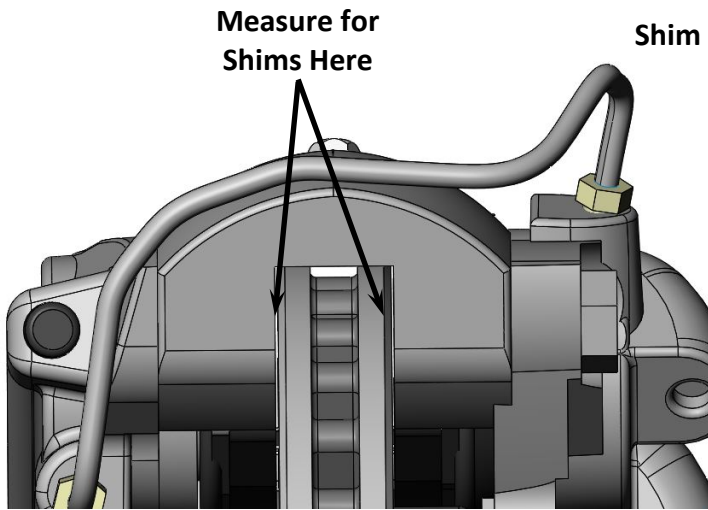
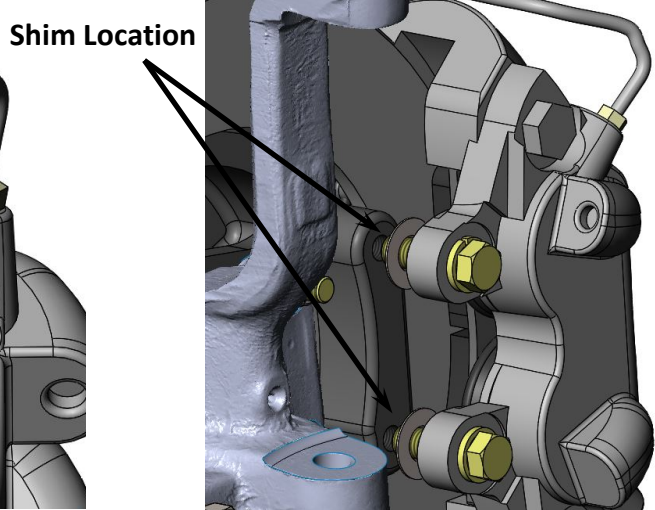

Figure 6a – Measure Location
Figure 6b – Shim Location
**NOTE:** Shimming of the caliper is required due to variations in spindle manufacturing and wear at the bearing seat area of the inner bearing. Refer to Figure 6a on next page for measuring reference and Figure 6b for the location of the shims.